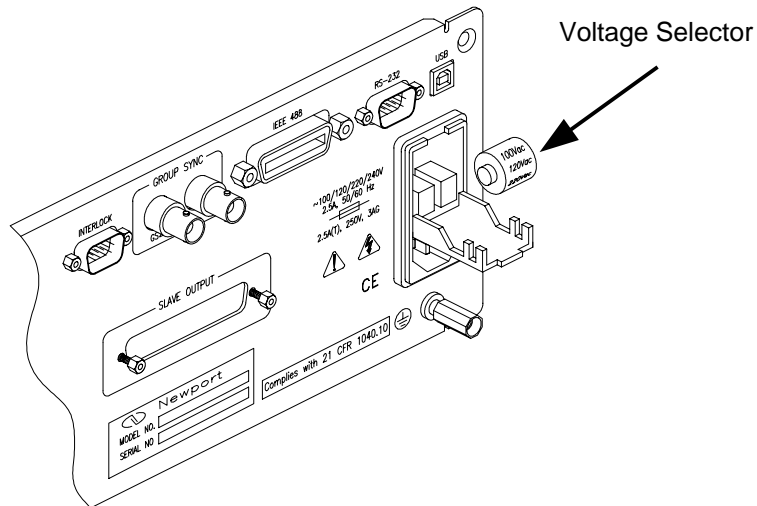

Figure 11 – Voltage Selector
The 8800 can be configured to operate at a nominal line voltage of 100, 120, 220, or 240 VAC. Normally, line voltage is configured at the factory based on the particular needs of the customer and need not be changed before operating the instrument. However, the operator should verify that the voltage setting is correct on the power input module. See **Figure 11** and **Section 3.2.3** for instructions on how to change the voltage setting if necessary. The 8800 is shipped set for 120 VAC and a caution sticker is placed on the input power connector.
2. Referring to **Figure 11**, remove the voltage selector drum.